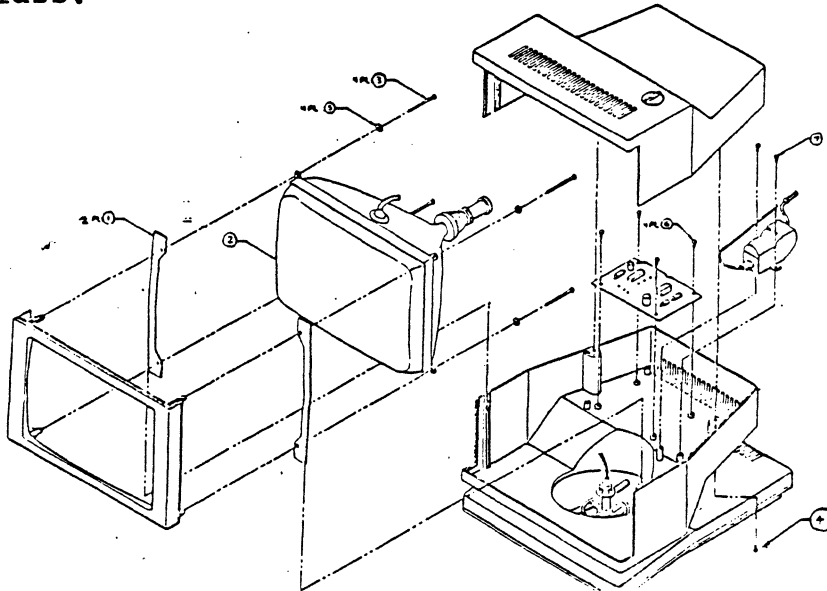

Figure 8-3
2. Loosen the two captive screws holding the monitor shells together. (Figure 8-3, item 4).
3. Slide the upper shell up on and off of the left and right CRT mounting brackets (Figure 8-3 item 1).
4. Separate the cable to the brightness knob at the in-line connector (figure 8-3 item 2) and set the top shell aside.
8. Remove the four screws that hold the bezel to the CRT, and remove the bezel (Figure 8-3 item 3).